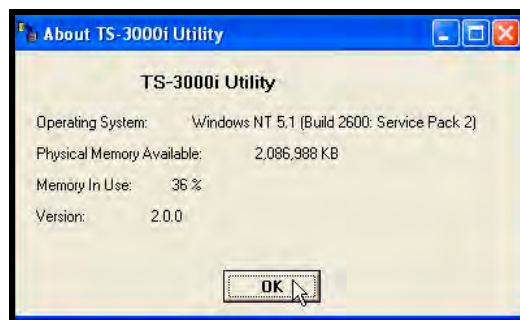

Figure 5-22: TS-3000i Utility About
- **About** – Use this function to display the About screen (see *Figure 5-22*). Click on the **OK** button to close.